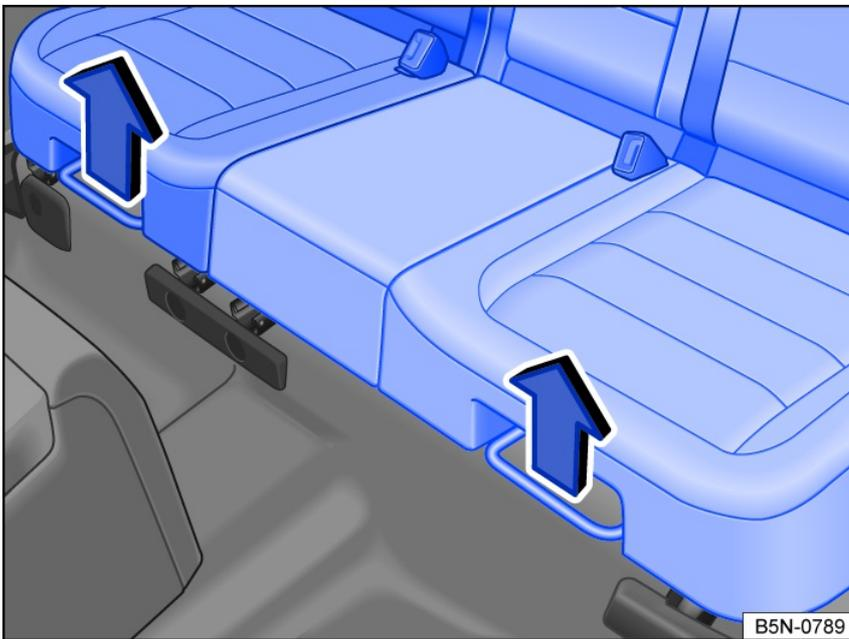

Fig. 80 Under the seat surface in the rear bench seat: adjusting bracket.
- Pull the right or left lever upward in the direction of the arrow *fig. 80* and slide the corresponding section of the rear bench seat forward or backward →  *Introduction on page .*